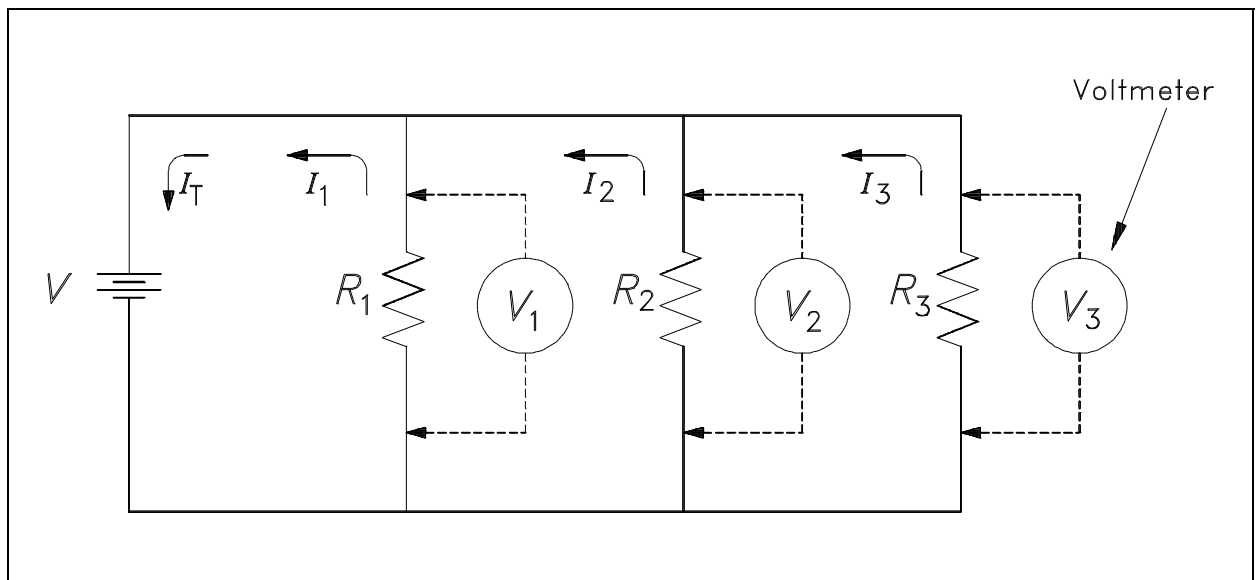

Figure 17 Parallel Circuit
*Parallel circuits* are those circuits which have two or more components connected across the same voltage source (Figure 17). Resistors  $R_1$ ,  $R_2$ , and  $R_3$  are in parallel with each other and the source. Each parallel path is a branch with its own individual current. When the current leaves the source  $V$ , part  $I_1$  of  $I_T$  will flow through  $R_1$ ; part  $I_2$  will flow through  $R_2$ ; and part  $I_3$  will flow through  $R_3$ . Current through each branch can be different; however, voltage throughout the circuit will be equal.
In a parallel circuit, the total resistance of the resistors in parallel is referred to as *equivalent resistance*. This can be described as the total circuit resistance as seen by the voltage source. In all cases, the equivalent resistance will be less than any of the individual parallel circuit resistors. Using Ohm's Law, equivalent resistance ( $R_{EQ}$ ) can be found by dividing the source voltage ( $V$ ) by the total circuit current ( $I_T$ ), as shown in Figure 17.